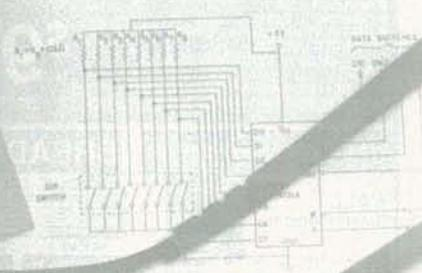
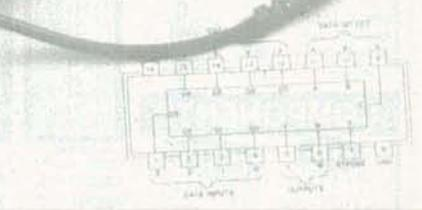

Fig. 16. Circuit for Experiment 2.
Fig. 17. Pin diagram for 74151A.
Figure 16 shows the circuit diagram for this experiment. You'll find the pin numbers for the IC aren't included on the diagram. For those, you'll have to refer to Fig. 17, which shows part number 74151A data. For the data switch, you'll use an eight-pole DIP switch in conjunction with 10K resistors. For the Select and Strobe lines, finally, you'll use the 10K resistors.
4. Next, connect the trainer data switch to the Sel. A and Sel. B on the IC, using Fig. 17 as a guide. Initially, set SW1 mask (pin 1) to the 0 output.